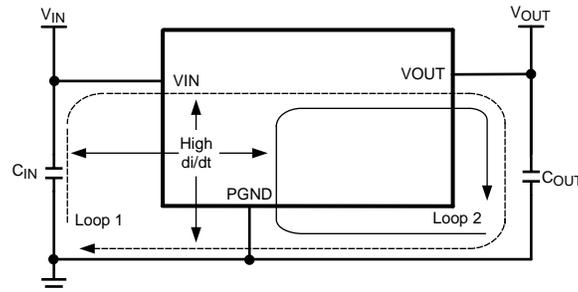

Figure 51. High Current Loops
From an EMI reduction standpoint, it is imperative to minimize the high di/dt paths during PC board layout as shown in Figure 51. The high current loops that do not overlap have high di/dt content that will cause observable high frequency noise on the output pin if the input capacitor (C_{IN}) is placed at a distance away from the LMZ23610. Therefore place C_{IN} as close as possible to the LMZ23610 VIN and PGND exposed pad. This will minimize the high di/dt area and reduce radiated EMI. Additionally, grounding for both the input and output capacitor should consist of a localized top side plane that connects to the PGND exposed pad (EP).